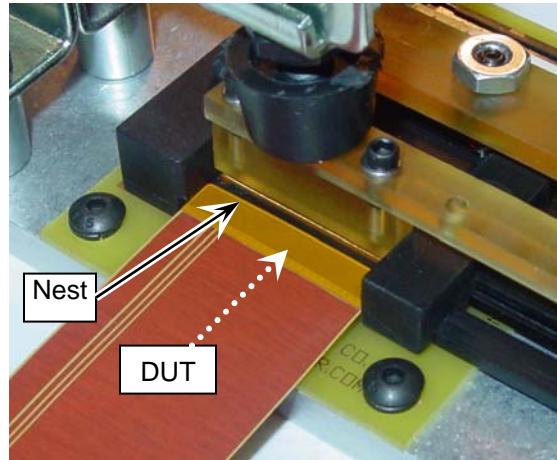

Figure 7
2. Insert the DUT into in the nest and lower the actuator. [Figure 7]